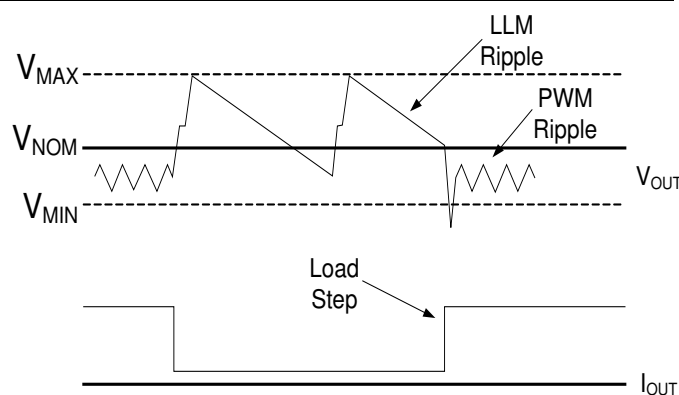

Figure 5:  $V_{OUT}$  behavior in LLM operation.
- (1) Step  $V_{OUT}$  up by approximately 1.0% above the nominal operating output voltage setting,  $V_{NOM}$  and as low as -0.5% below  $V_{NOM}$ , and then
- (2) Shut down unnecessary circuitry, and then
- (3) Monitor  $V_{OUT}$ .
When  $V_{OUT}$  falls below  $V_{NOM}$ , the device will repeat (1), (2), and (3). The voltage step up, or pre-positioning, improves transient droop when a load transient causes a transition from LLM mode to PWM mode. If a load transient occurs, causing  $V_{OUT}$  to fall below the threshold  $V_{MIN}$ , the device will exit LLM operation and begin normal PWM operation. Figure 5 demonstrates  $V_{OUT}$  behavior during transition into and out of LLM operation.